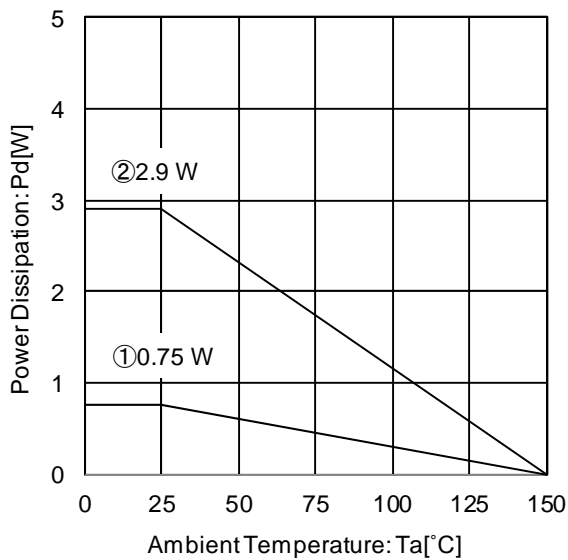
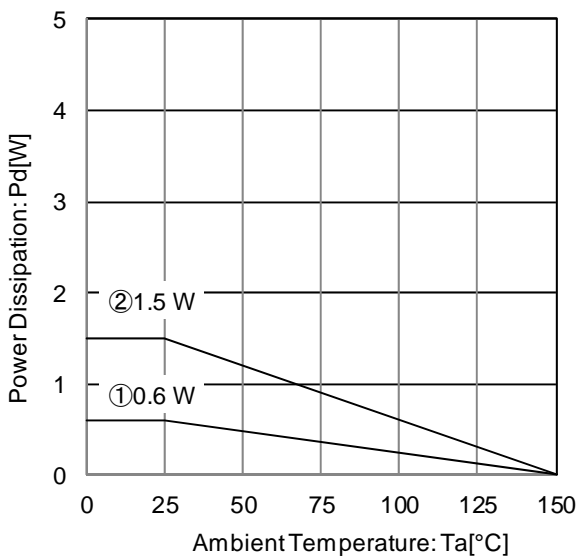

Figure 25. Package Data (HTSOP-J8)
Figure 28. Package Data (SOT223-4F)
Refer to the heat mitigation characteristics illustrated in Figure 25 to Figure 28 when using the IC in an environment of  $T_a \geq 25^\circ\text{C}$ . The characteristics of the IC are greatly influenced by the operating temperature, and it is necessary to operate under the maximum junction temperature  $T_{jmax}$ . Even if the ambient temperature  $T_a$  is at  $25^\circ\text{C}$  it is possible that the junction temperature  $T_j$  reaches high temperatures. Therefore, the IC should be operated within the power dissipation range.
At  $T_a=125^\circ\text{C}$  with Figure 25 ② condition, the calculation shows that ca 56.4mA of output current is possible at 10.2V potential difference across input and output.
At  $T_a=125^\circ\text{C}$  with Figure 25 ② condition, the calculation shows that ca 67.7mA of output current is possible at 8.5V potential difference across input and output.
At  $T_a=125^\circ\text{C}$  with Figure 28 ② condition, the calculation shows that ca 29.4mA of output current is possible at 10.2V potential difference across input and output.
At  $T_a=125^\circ\text{C}$  with Figure 28 ② condition, the calculation shows that ca 35.2mA of output current is possible at 8.5V potential difference across input and output.